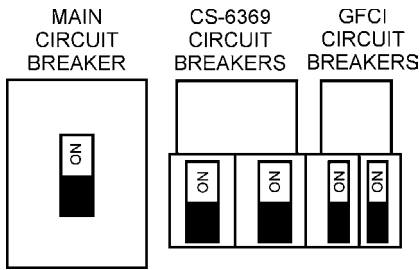

Figure 48. Main, Aux. and GFCI Circuit Breakers (ON)
- Place the **main, GFCI, and aux.** circuit breakers in the **ON** position (Figure 48).